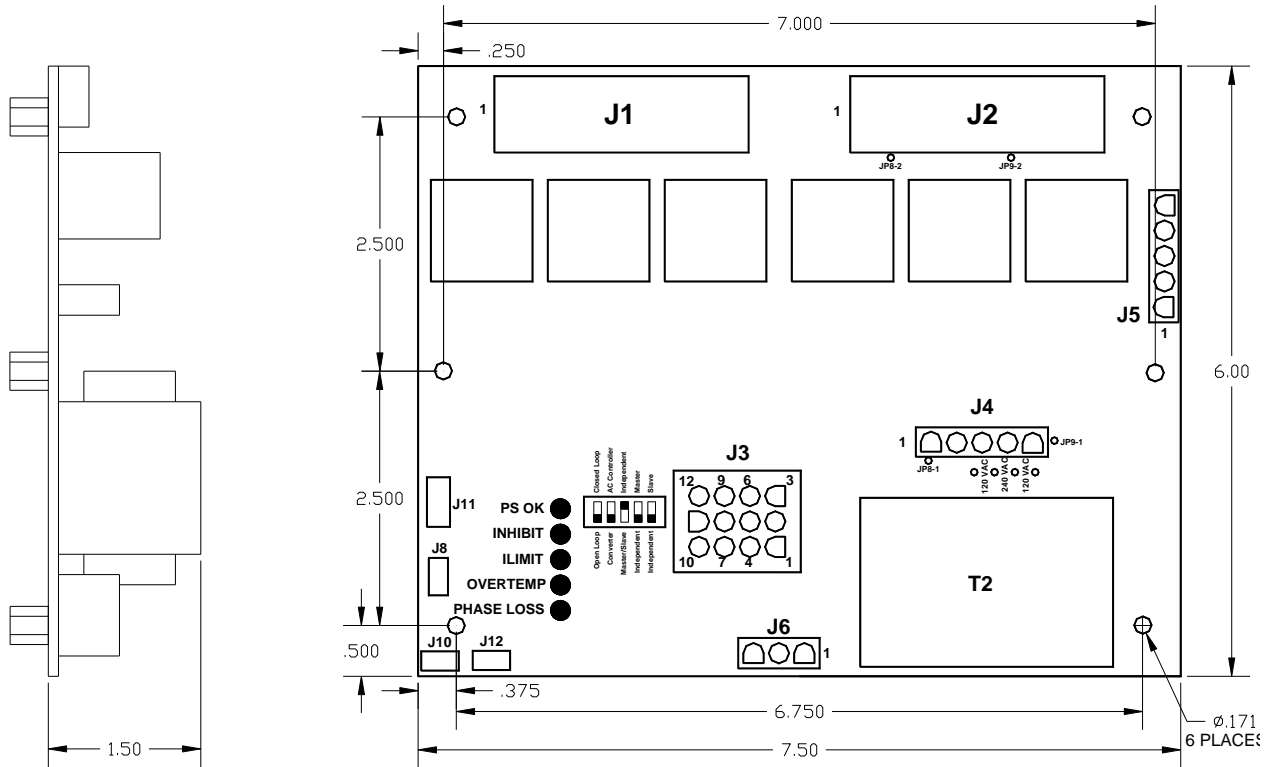

Figure 5: BAP1950A board layout and connector locations
1. Apply 120VAC across J4-1 and J4-5 install both 120 VAC jumpers between J4 and T2 (see Figure 5).